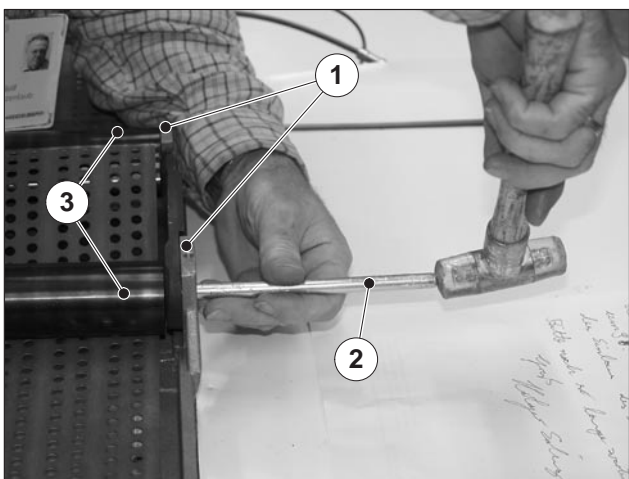

Fig. 91 Removing the idler pulley
5. Loosen the two grub screws (Fig. 91/1) on the roller bearings.
6. Use a punch (Fig. 91/2) for removing the two shafts.
7. Remove the rollers (Fig. 91/3).